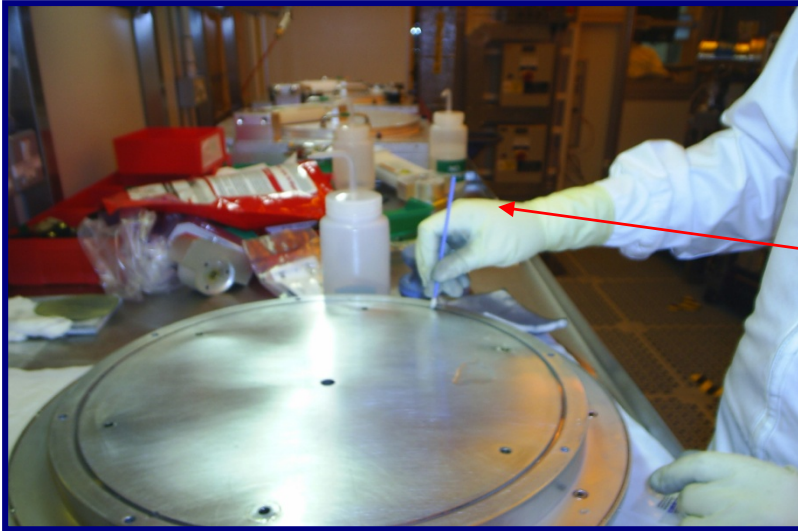

Fig 9: Using swabs to remove residue in plug holes
Step 12: Using IPA dampen the HT1702-5 swabs and wipe o-ring groove, until all deposition is removed. Also use HT1702-5 to remove any process residue in the plug holes (See Fig 9)